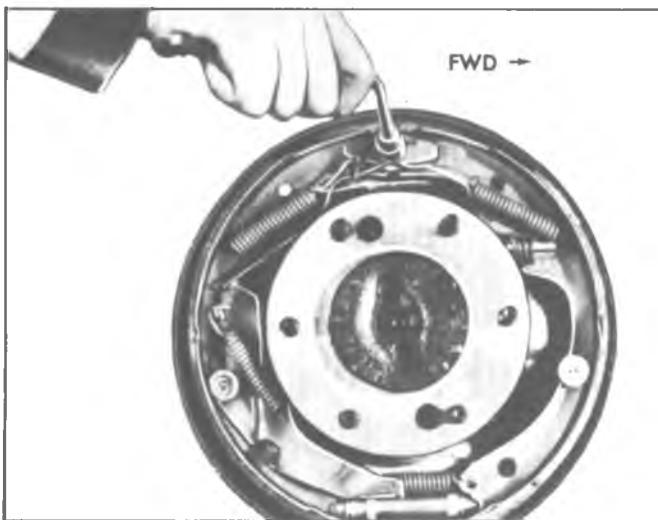

Fig. 46-Unhooking Pull Back Spring
4. Unhook brake shoe pull back springs from anchor pin and link end, using Tool J-8049 (fig. 46).